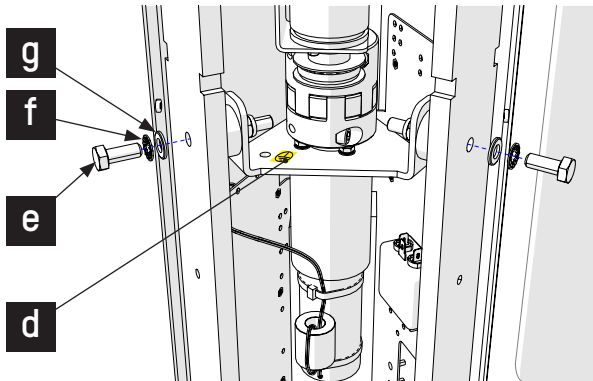

Fig. 41 - Coupling replacement (Motor bracket)
6. Remove the motor bracket fasteners, screws (**g**) and washers (**h**) and (**i**) from the motor bracket (**f**) (Fig. 41);